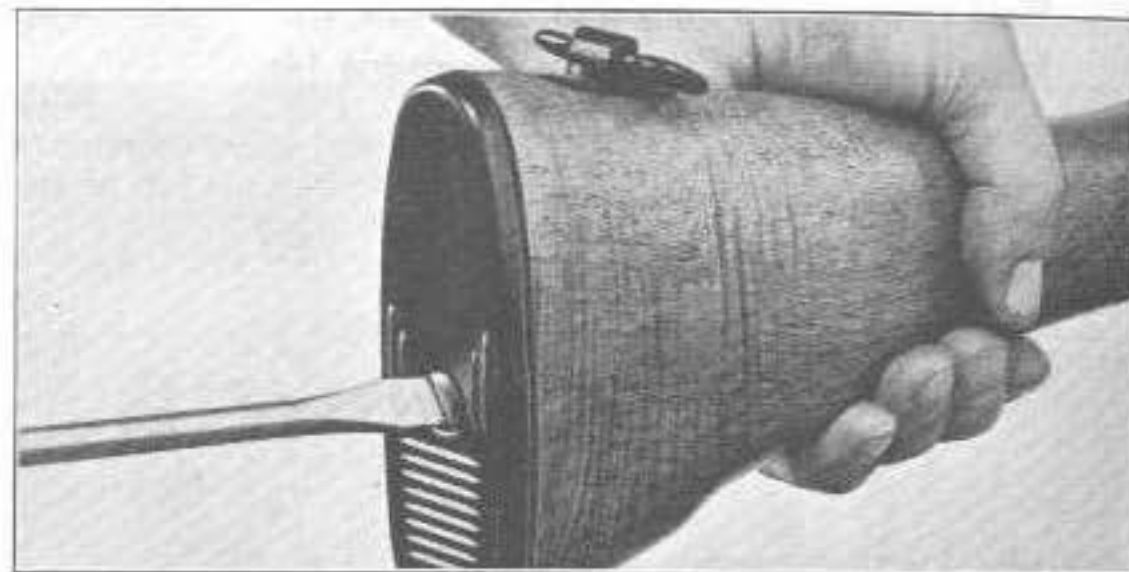

Fig. 112
b) **Butt plate.** — Unscrew butt plate screw (fig. 112).